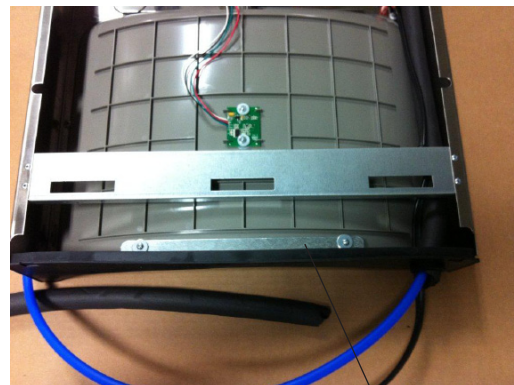

Fig. 8
- 6) Install gasket on bottom of bottle filler tower with gasket support bracket, (2) washers, & (2) screws (See Fig 8).